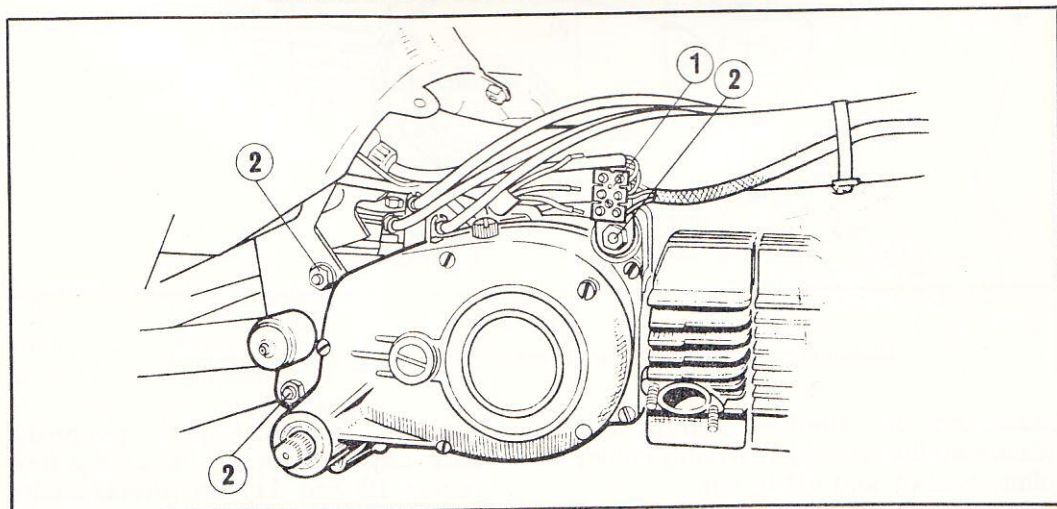

Fig. 28
Detach the three magneto leads from the frame terminal block (1) just above the engine. (See Fig. 28.)
Undo the nuts of the three engine mounting bolts (2, Fig. 28) and